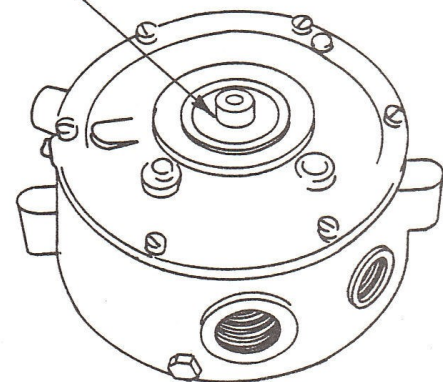

FIGURE 10. Diaphragm Positioning
4. Lift the diaphragm up against the cover by pulling with pliers through the center hole in the cover. Tighten all the screws while lifting the diaphragm (FIGURE 10).